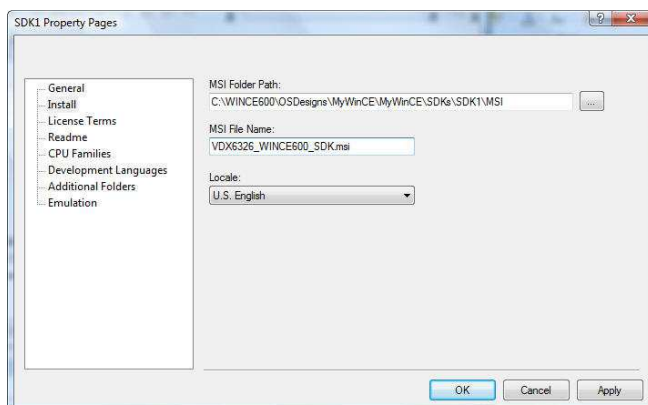

Fig. 31 - SDK Property Page
- On the left side of **SDK Property Page**, click on **Install** and enter path and file name for the MSI file on the right side. Use the default path, and enter **VDX6326_WINCE600_SDK.msi** as the file name, as shown in Figure 31.